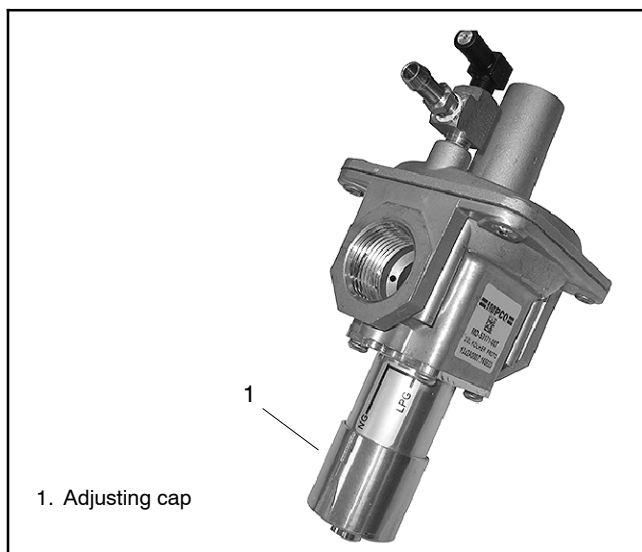

Figure 1-21 Fuel Pressure Regulator
1. Push the adjusting cap to its upper stop and rotate clockwise, release upward pressure, and lock into place. Figure 1-21.
1. Push up on the adjusting cap and rotate counterclockwise. Release upward pressure, and lock into place. Figure 1-21.